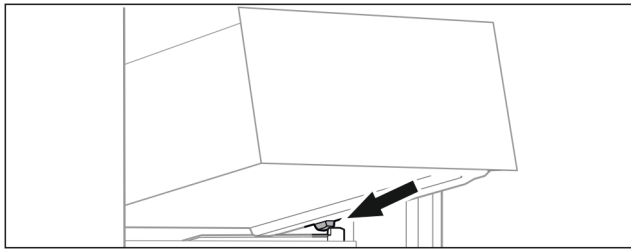

Fig. 29
- ▶ Place drawer at an angle behind the stoppers on the moulded rib. (see Fig. 29)